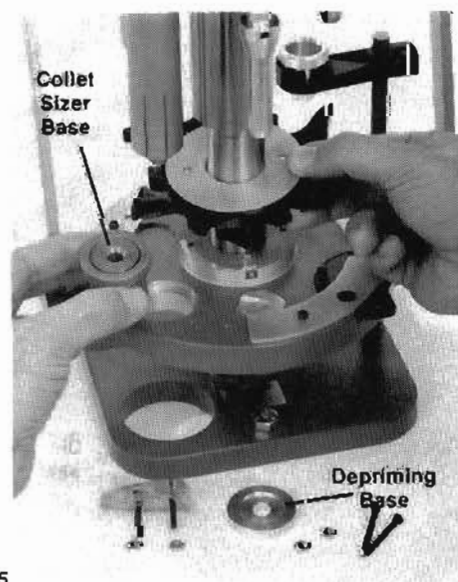

Fig. 45
**Figure 45** - Remove the shell guide and the shell guide screws. Lift the shellplate and remove the original de-priming base, setting it aside. Insert the replacement collet sizer base.